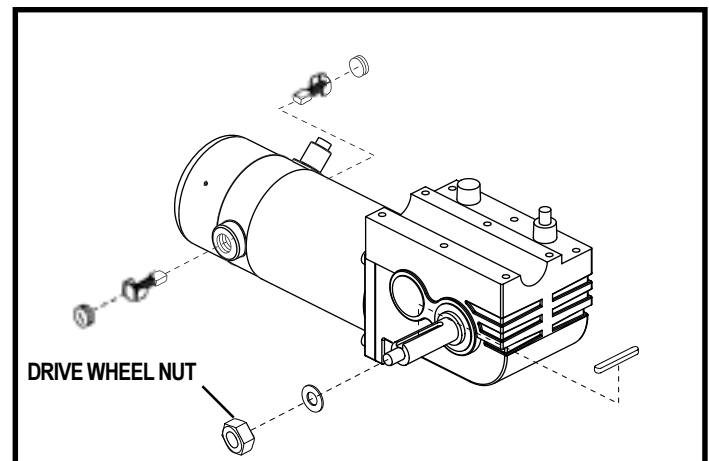

Figure 24. Motor
4. Remove the drive wheel nut from the wheel hub. See figure 24.